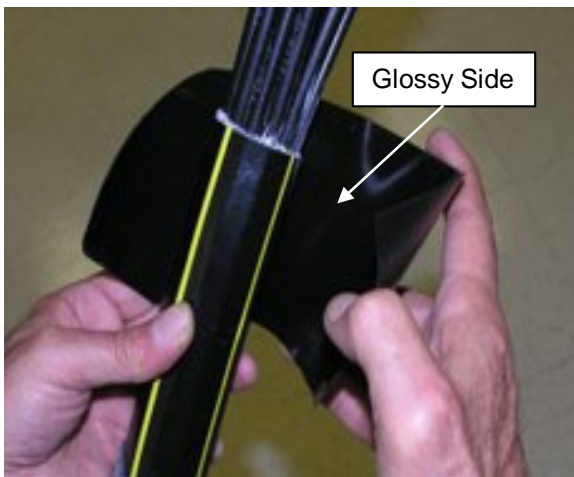

Figure 13
12.1 With glossy side of Encapsulant Container facing the tube cable jacket, position bottom edge of Container around circumference of tube cable. **See Fig. 13.**